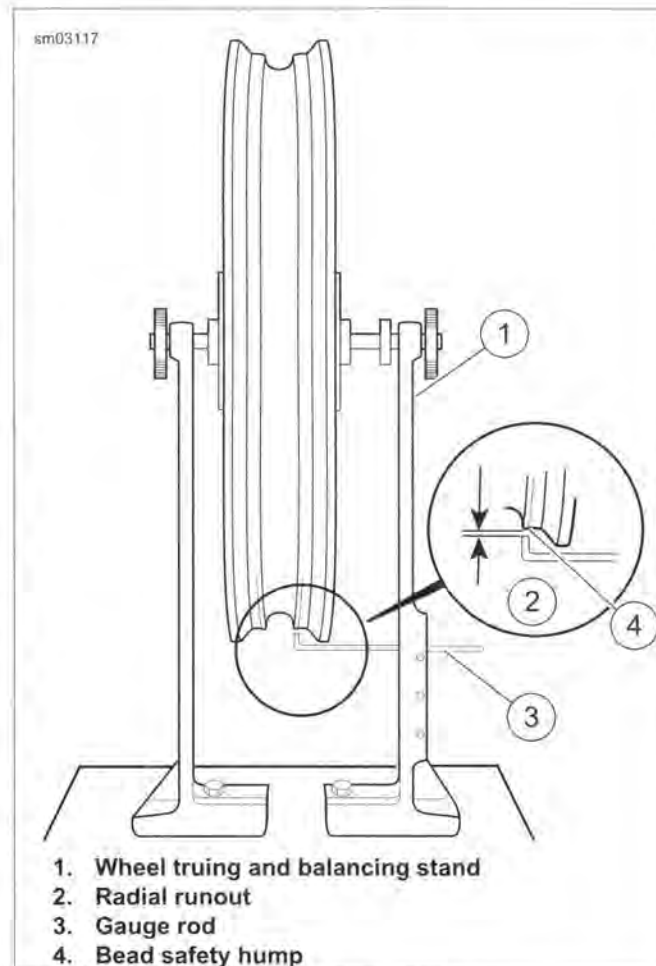

Figure 2-44. Checking Radial Runout
1. See Figure 2-44. Mount wheel in WHEEL TRUING AND BALANCING STAND (Part No. HD-99500-80).
2. Adjust the gauge rod (3) near to the tire bead safety hump (4). If using a dial indicator, place the tip on the safety bead hump.